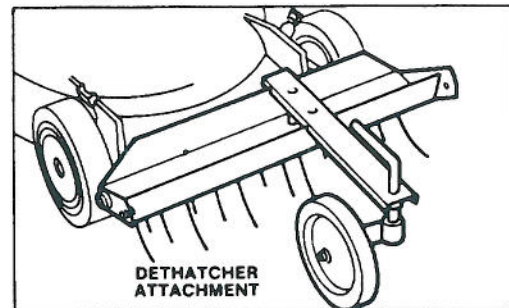

Figure 8
**REMOVE THATCH (MODEL 20620 only)**—As spring tines on optional Toro Dethatcher scratch and vibrate through the grass, thatch is loosened and conveniently vacuumed into the bag (Fig. 8).